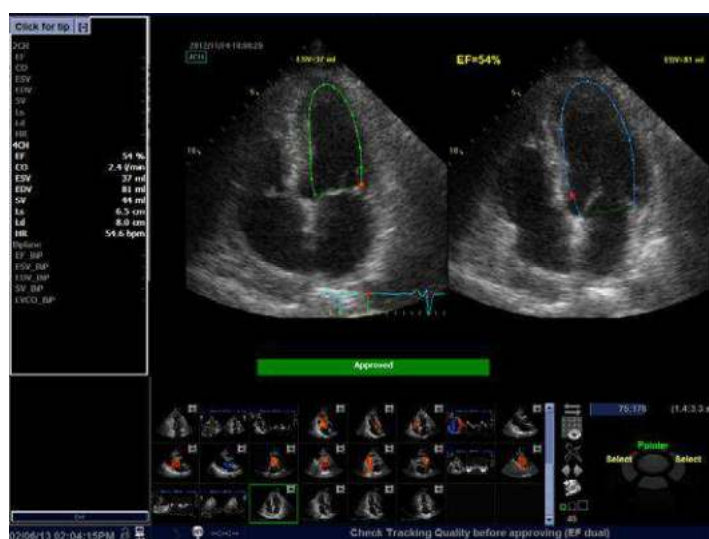

Figure 13-117. AutoEF Results Dual Screen - Alternative screen mode
1. Press **EF Dual** to enlarge ES and ED frames and position them side-by-side (Figure 13-117 on page 13-251).